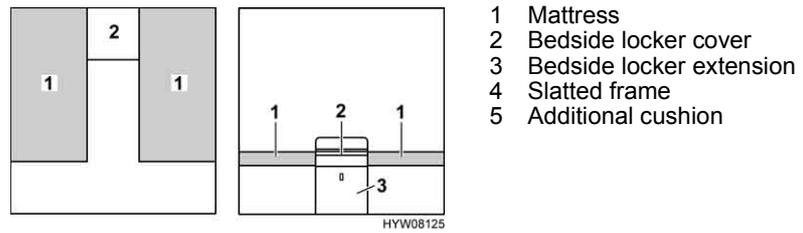

Fig. 107 Prior to conversion
- Remove the bedside locker cover (Fig. 107,2) and put it to one side.